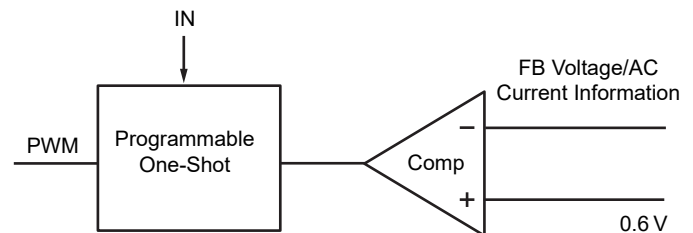

Figure 2. Simplified Control Schematic of AOZ2254LQI-30
The control algorithm of AOZ2254LQI-30 is constant-on-time PWM control with input feed-forward. The simplified control schematic is shown in Figure 2. The high-side switch on-time is determined solely by a one-shot whose pulse width is inversely proportional to input voltage (IN). The one-shot is triggered when the internal 0.6V is higher than the combined information of FB voltage and the AC current information of inductor, which is processed and obtained through the sensed low-side MOSFET current once it turns-on. The added AC current information can help the stability of constant-on time control even with pure ceramic output capacitors, which have very low ESR. The AC current information has no DC offset, which does not cause offset with output load change, which is fundamentally different from other V^2 constant-on time control schemes.